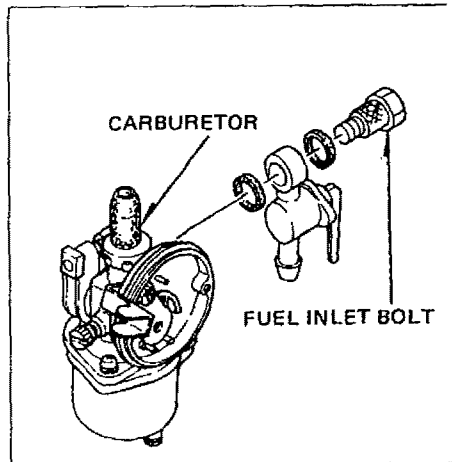

Figure 9
- a. Your motor has a fixed high speed jet. The Idle Adjustment has been preset at the factory. (See Figure 9).
- b. Periodically check filter for dirt by unscrewing fuel inlet bolt. (See Figure 9).